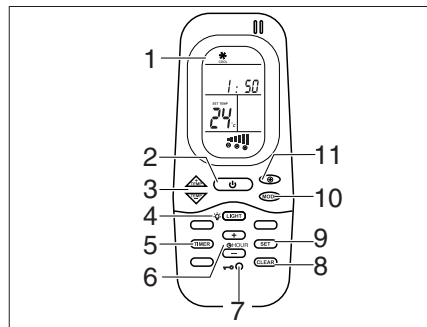
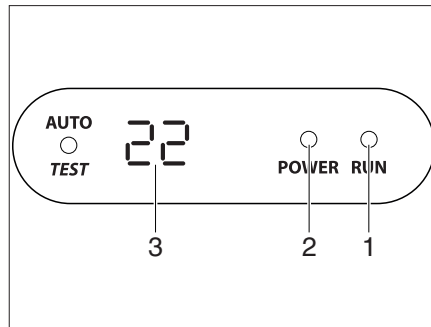

Fig. 309 Remote control
Fig. 310 Display on the diffuser
The air conditioning unit is located on the roof of the vehicle. The remote control (Fig. 309) for the air conditioning unit is located in the kitchen area.
- Connect the vehicle to the 230 V power supply. The air conditioning unit is ready to operate. The LED (Fig. 310,2) on the diffuser's display lights up red.
- To switch on, press the on/off switch (Fig. 309,2) on the remote control. The LED (Fig. 310,1) lights up green when the air conditioning unit is in cooling mode. The LED (Fig. 310,1) lights up red when the air conditioning unit is in heating mode.
- Set the desired operating mode using the MODE button (Fig. 309,10).
- If necessary, set the desired fan level by using the button (Fig. 309,11) and the room temperature by using the buttons (Fig. 309,3).
- To switch off, press the On/Off switch (Fig. 309,2) on the remote control again.
- To carry out programming, switch on the air conditioning unit with the On/off switch (Fig. 309,2) on the remote control.
- Press the TIMER button (Fig. 309,5). The ON indicator for the Start time is activated.
- Set the time with the TEMP (+/-) buttons (Fig. 309,3).
- Press the TIMER button (Fig. 309,5) again. The OFF indicator for the Start time is activated.
- Press the TIMER button (Fig. 309,5) again.
- Upon completing the setting, press the SET button (Fig. 309,9).
- Press the CLEAR button (Fig. 309,8) to delete the timer programming.